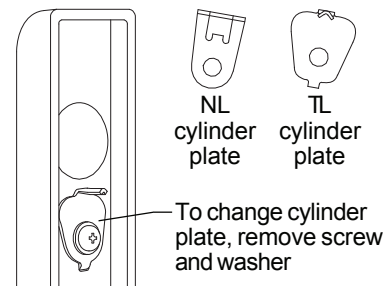

Figure 3. NL and TL function cylinder plates.
- A. If necessary, change control cylinder plate for desired control function (Figure 3).